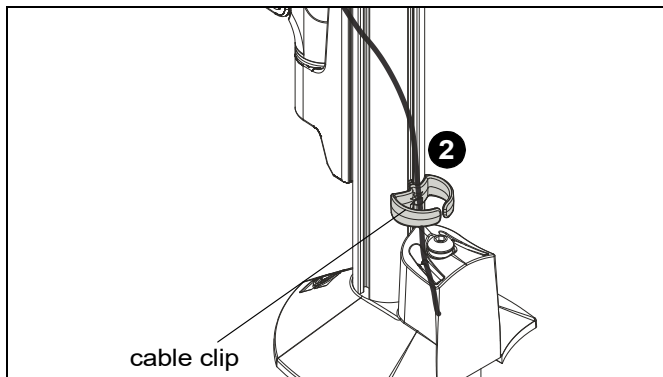

Figure 28
2. Route through cable clip on column (optional). (See Figure 28)
3. Route through cable clip on column (optional). (See Figure 28)